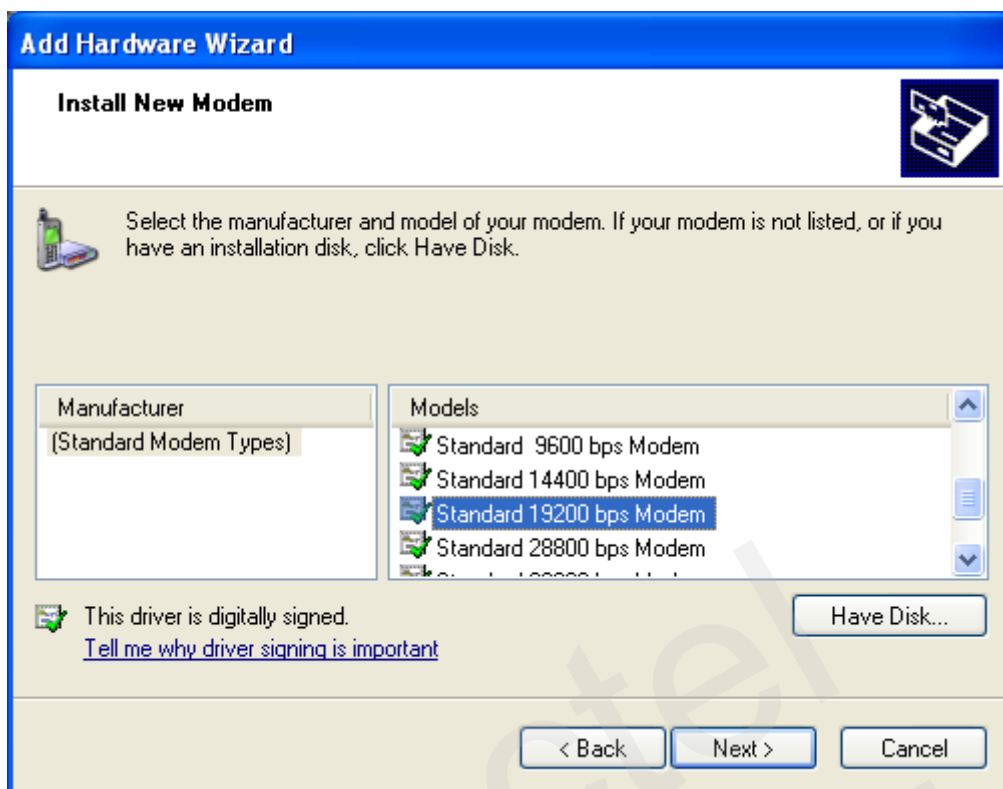
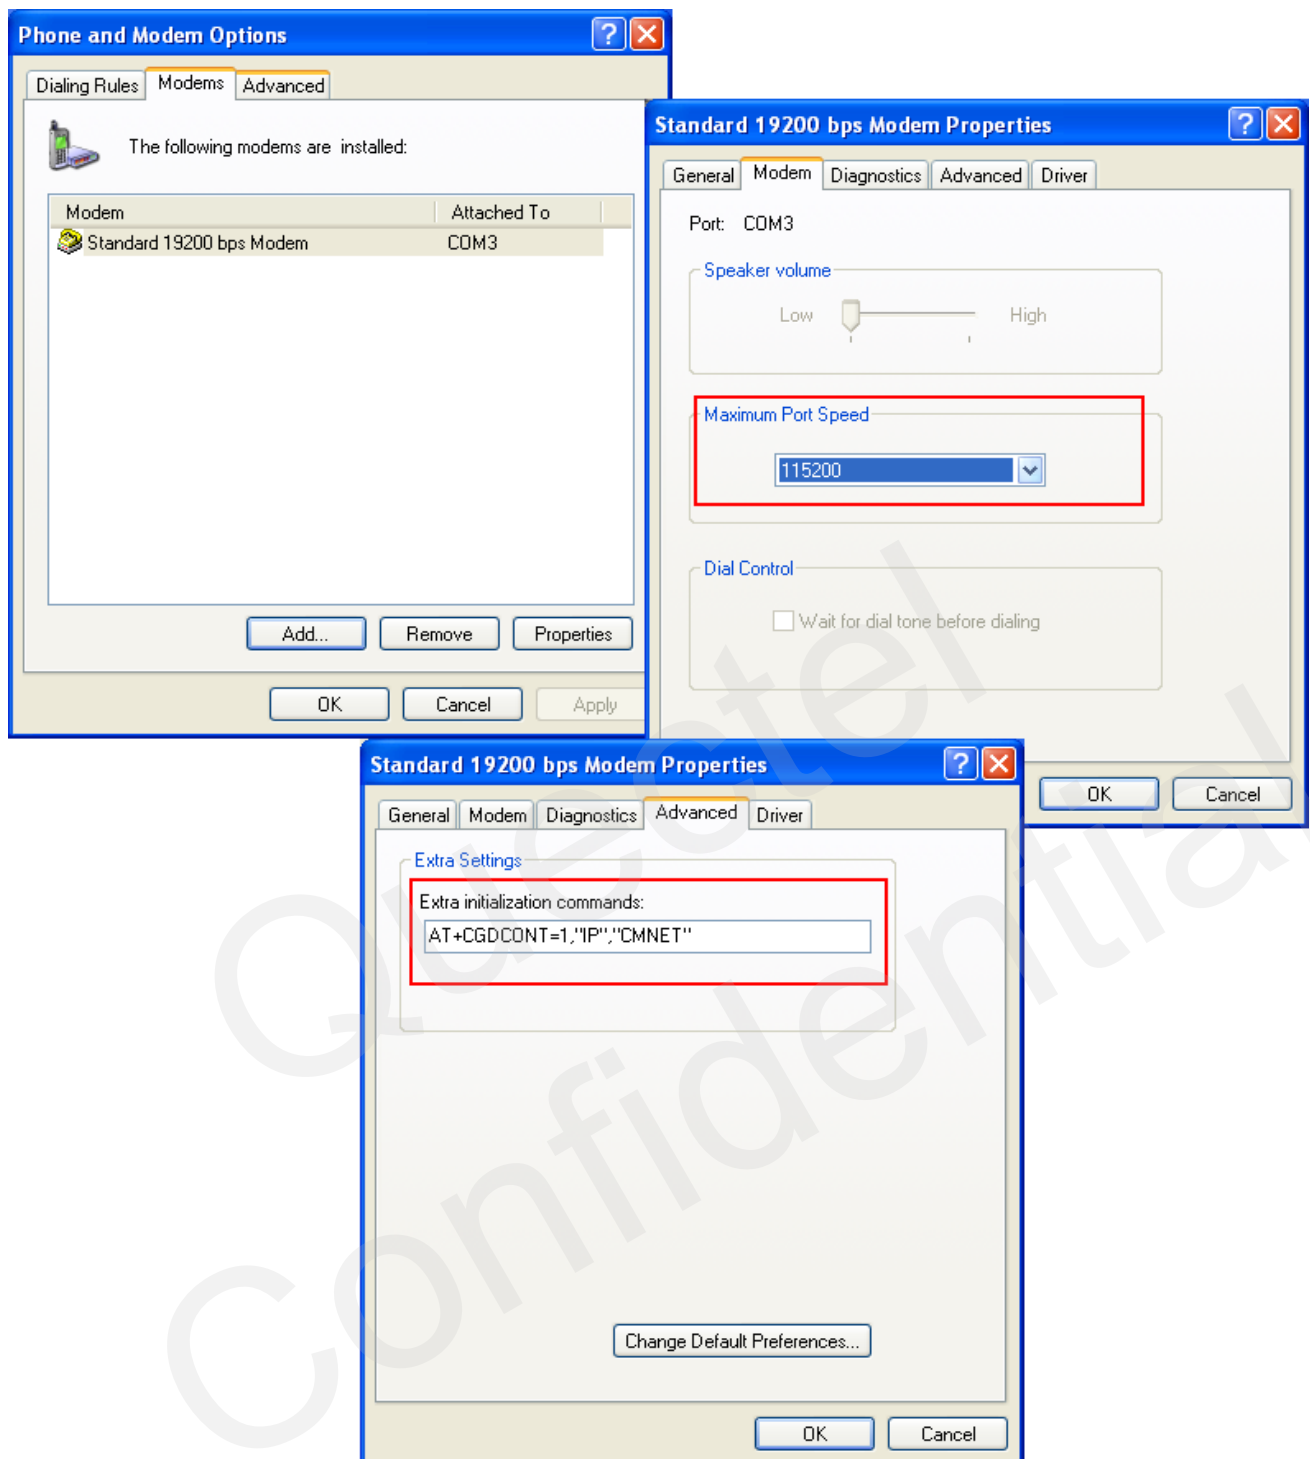

Figure 6: Select Model of the Modem
**Figure 8: Successful Installation**
3. Install the new modem, refer to the instructions on the screen, select "**Standard 19200 bps Modem**" and a port (COM3) which will be installed, click "**Next**" button, till the configuration is finished. Refer to Figure 6, Figure 7 & Figure 8.